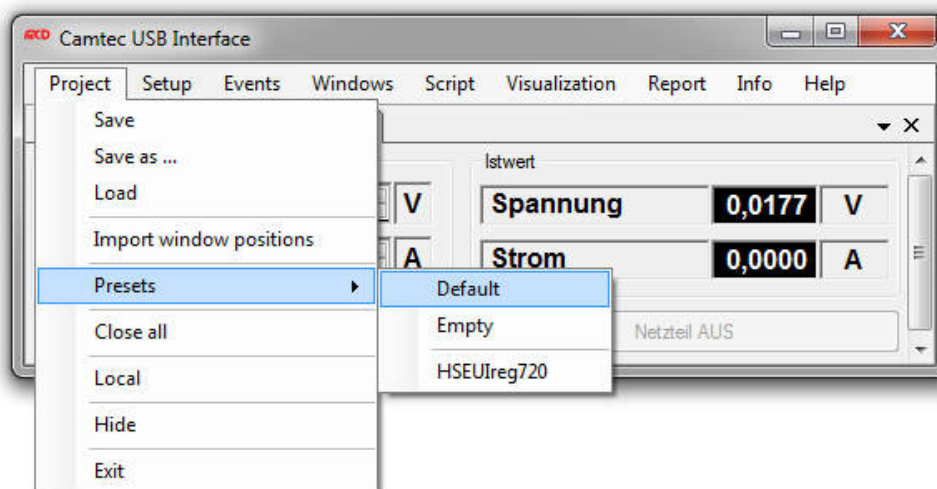

Figure 2 Chose the Default-Preset for the first step
2. After starting the Software please chose „Default“-Preset (Project ->Presets), if not already enabled (Figure 2)